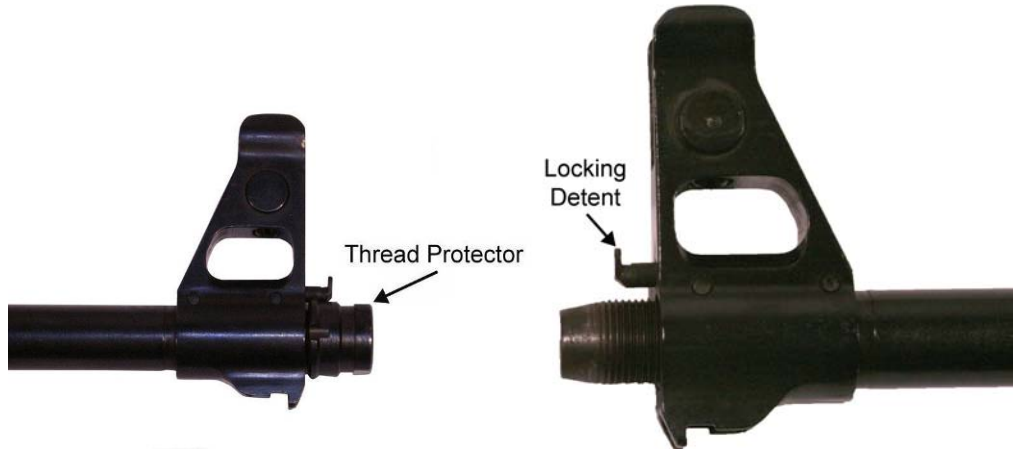

Figure 13. Thread Protector and Locking Detent.
10. Muzzle. While depressing the locking detent with a finger or field experient tool, unscrew the compensator or thread protector until it comes off the muzzle. Refer to Figure 13.